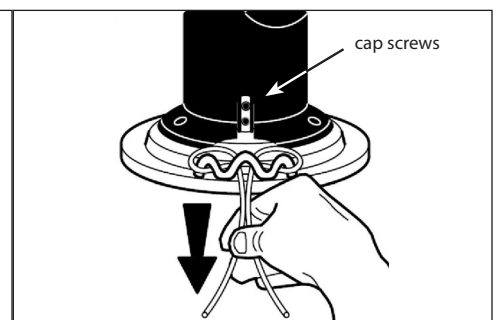

FIGURE 12: Check ends of line
5. Then, check to make sure that the ends of the line are even. **SEE FIGURE 12**